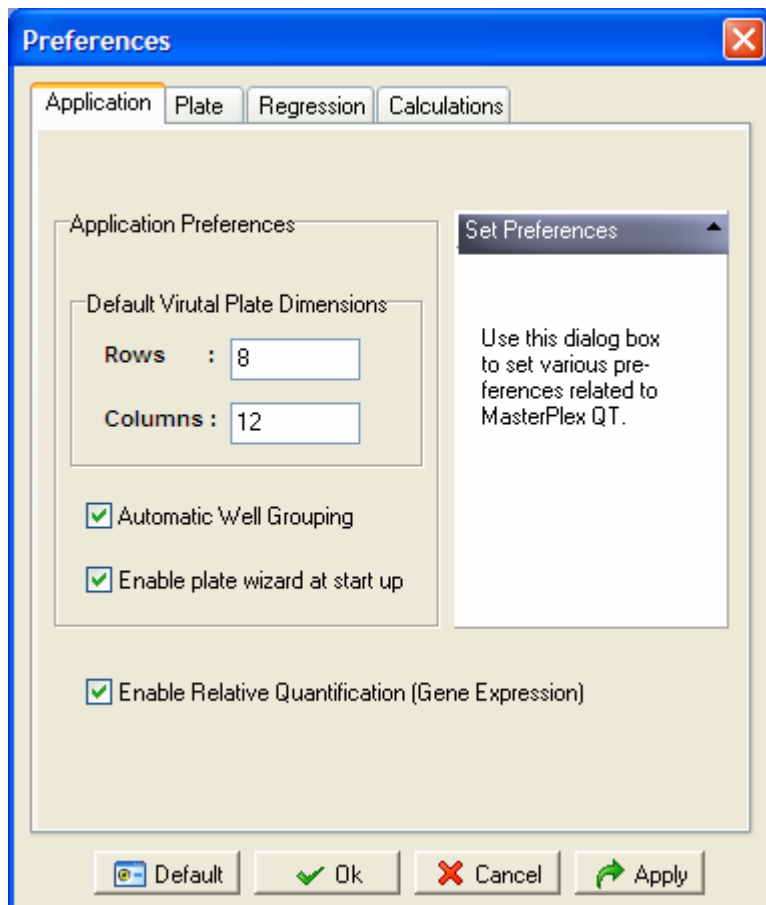

Figure 4.23 Preferences dialog box
- To open the Preferences dialog box (Figure 4.23), click the **Preferences** button . Alternatively, select **File > Preferences** from the menu bar.
The application preferences (Figure 4.23) include: